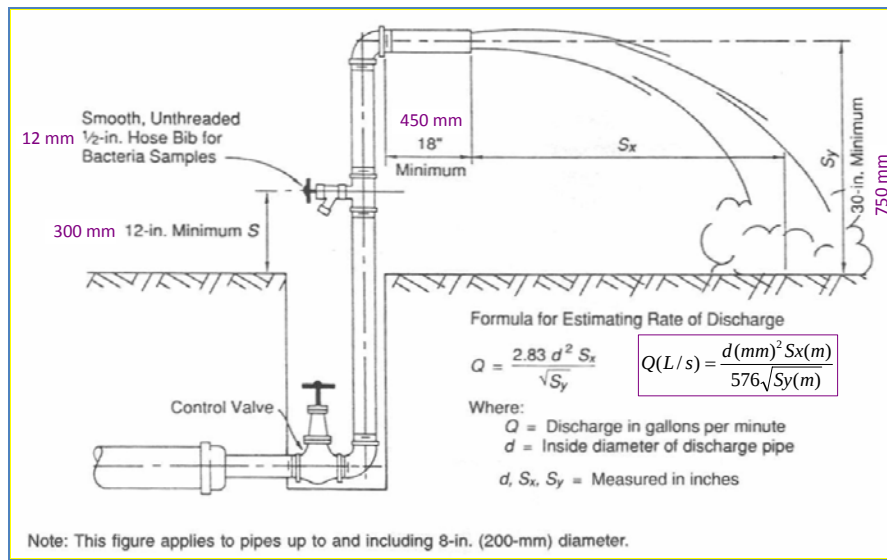

Figure 2. Suggested combination blowoff and sampling cap (after AWWA C651)
- A suggested combination blowoff and sampling tap used for watermains up to and including 200 mm (8 in) diameter is shown in **Figure 2**.